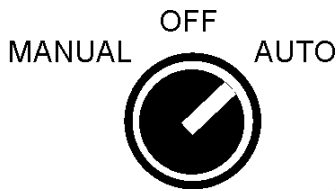

Figure 13. Operation Switch (Auto Position)
5. To operate the pump automatically (float switches), place the 3-position operation switch in the AUTO position (Figure 13).